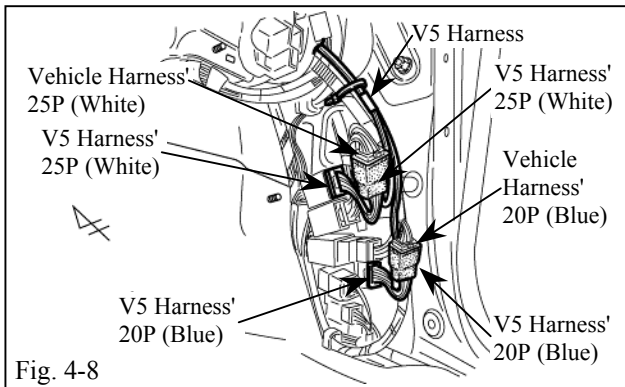

Fig. 4-8
- (l) Plug in the V5 harness' white 25P connectors between the vehicle harness' white 25P connector and the passenger side cowl area. (Fig. 4-8)
(1) Verify the connectors are plugged in securely.
- (m) Plug in the V5 harness' blue 20P connectors between the vehicle harness' blue 20P connector and the passenger side cowl area. (Fig. 4-8)